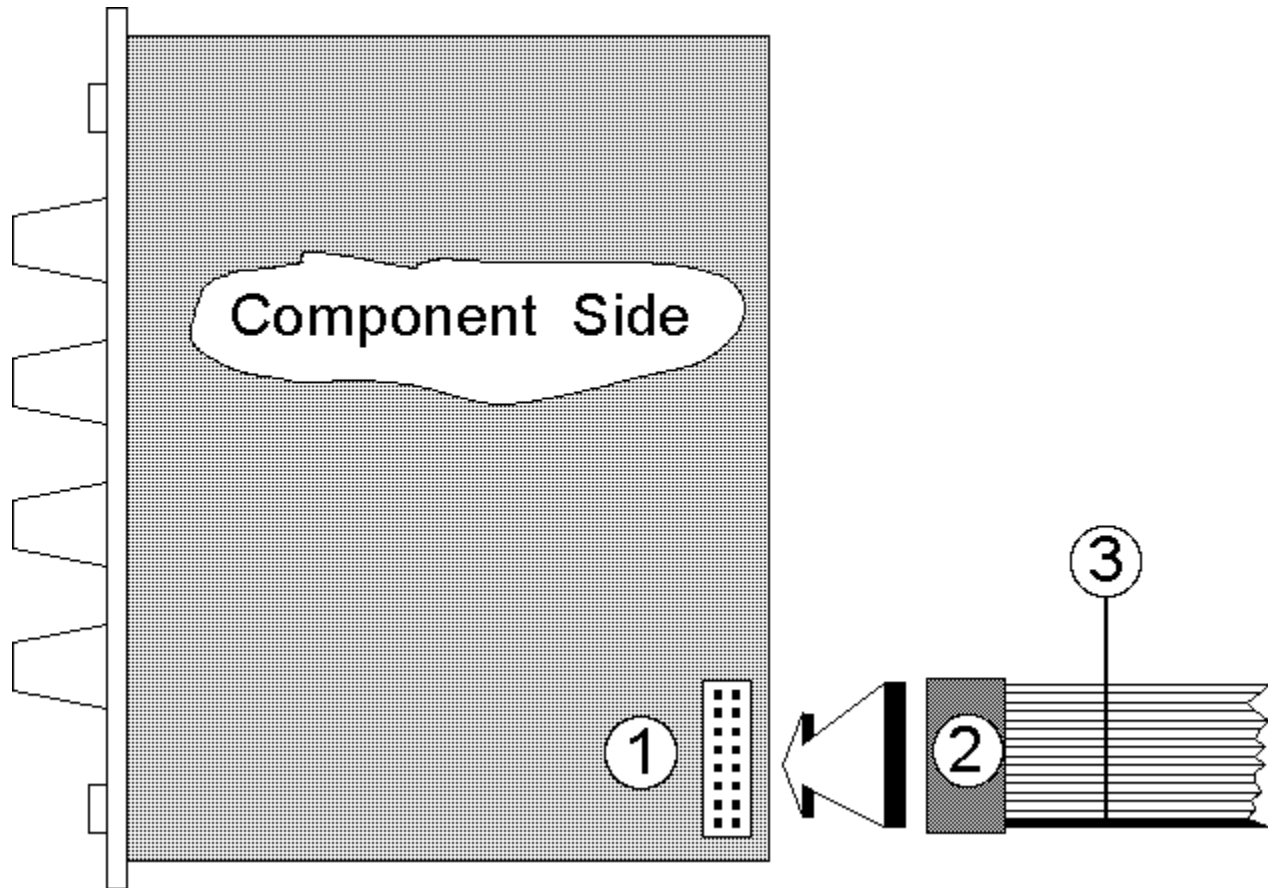

Fig.3: Connection the module to the bus connector
Plug the supplied **ribbon cable** into the module's **bus socket** (see (1) in Fig. 3). As a rule, the cable is 16-way, but some modules only have a 10-way cable. Look carefully at the cable, and then press the appropriate connector onto the module's bus pins (see (2) in Fig. 3).
Check very carefully that it is connected so that the coloured marking on the ribbon cable is at the bottom of the module's connector (see (3) in fig. 3), and that the connection is perfect, and **pushed fully home, not at a slight angle**. Failure to check this may result in the module's instant destruction as soon as the power is turned back on.